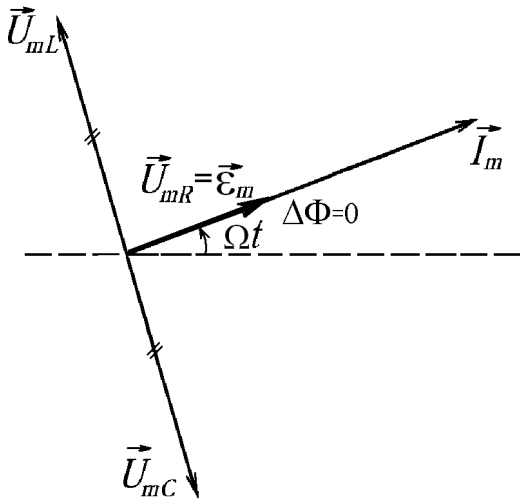

Figure 10 – Vector diagram of voltages on RLC-circuit's elements at resonance $\Omega = \omega_0$ (current synphase to an external EMF).
Let's analyze obtained equations. Obviously that change of driving frequency Ω will lead to change of current amplitude I_m . On Fig. 10 represented plot of I_m versus Ω . From equation (60) follows that:
$$I_m = \frac{\varepsilon_m}{R} \quad \text{and} \quad \Delta\Phi = 0 \quad (\text{see Fig.10 and 11}).$$